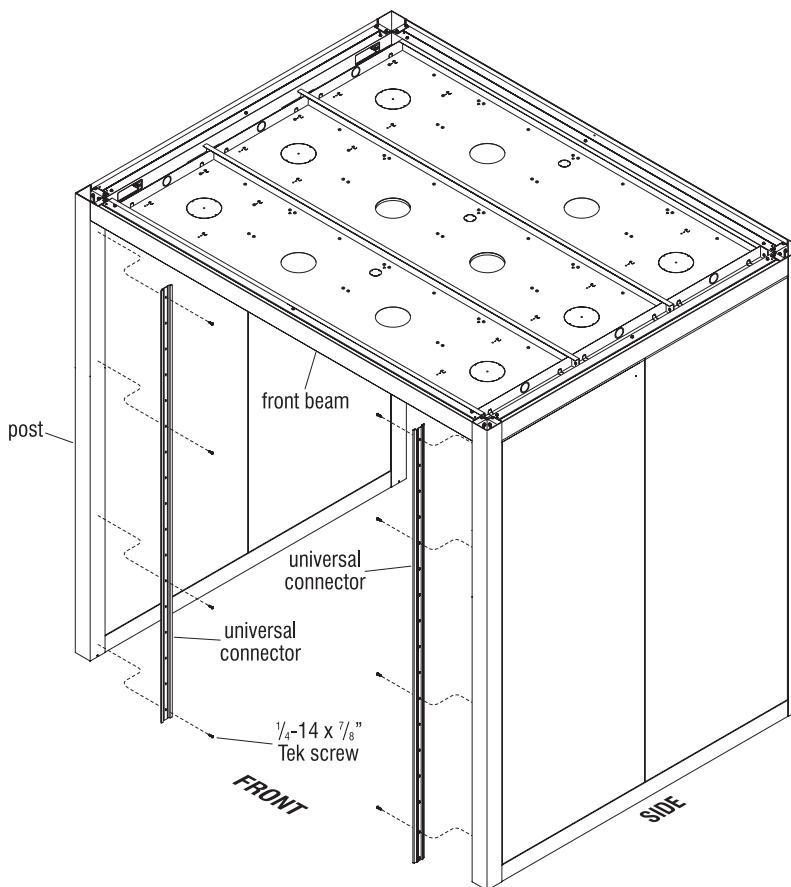

**Figure 1 -Genius Ceiling Rail**
1. To install a ceiling rail, first determine which pre-sized ceiling rail is required based on beam width between the posts (Figure 1).
2. Position the pre-sized ceiling rail up under the center of the beam, between posts. Align and center the ceiling rail at the underside of the beam, and install the ceiling rail to the beam using  $1/4\text{-}14 \times 7/8\text{"}$  Tek screws provided through each ceiling rail mounting hole (Figure 1 & Detail A).